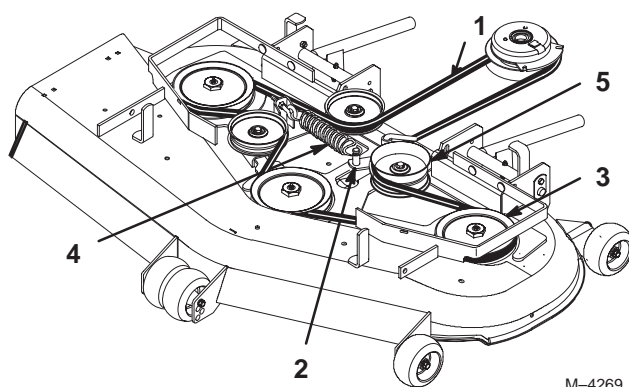

Figure 62
4. Remove belt. Start at outside pulley and rotate off (Fig. 62).
7. Reinstall idler pulley and route belt onto other pulleys (Fig. 62).